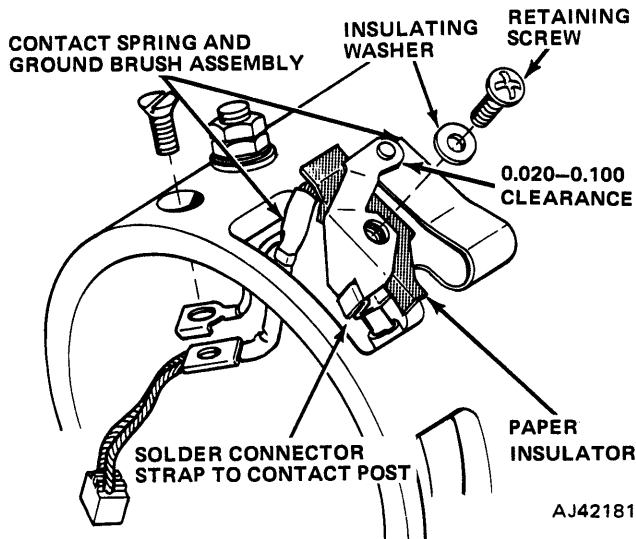

Fig. 3-48 Starter Motor Contact Kit
(1) Unsolder contact post from field coil connecting strap. A heavy-duty soldering iron (at least 300 watts) or a propane torch with a small flame is recommended (fig. 3-48).
(2) Cut off head of contact spring retaining rivet with a small, sharp chisel and discard the contact spring. Use an 8-32 thread tap to cut threads in rivet hole.
(3) Remove contact post retaining screw and insulating washer. Discard contact post and paper insulator.
(4) Position replacement contact spring and ground brush assembly, paper insulator, and contact post on starter frame.
(5) Install insulating washer and retaining screw. Center contact points and tighten retaining screws securely.
(6) Stake threaded end of screw from inside starter frame.
(7) Clean end of the field connecting strap and slotted area of contact post with fine sandpaper to ensure a good solder joint.
(8) Insert end of field connector strap through slot of contact post. Bend and crimp end of connector strap against cleaned surface of the contact post. Solder connection using rosin core solder.
(9) Remove upper ground brush retaining screw and discard brush. Place field ground lead terminal and replacement ground brush terminal block together and install original retaining screw. Tighten screw securely.
(3) Place starter drive yoke return spring into recess of drive end housing and install housing to starter frame. Install brush end plate with end plate boss aligned with starter frame slot.
(4) Install through-bolts and tighten to specified torque. Be sure that stop ring retainer is properly seated in drive end housing.
(5) Use a hook to pull back on the brush springs and insert brushes into their holders.
(6) Press down firmly on the starter drive yoke until moveable pole shoe is bottomed. Check clearance between contact points (fig. 3-48). Bend upper contact post, if required, to obtain a desired clearance of 0.060-inch, with an OK range of 0.020-inch to 0.10-inch.
(7) Cover brush openings in frame with waterproof tape and install drive yoke cover and gasket.
(8) Install brush cover band and tighten retaining screw.
(9) Apply a generous amount of Lubriplate or equivalent to drive end of armature shaft and install drive end housing seal using a socket or other suitable tool.
(10) Connect starter to a battery and check operation. Refer to No-Load Test.